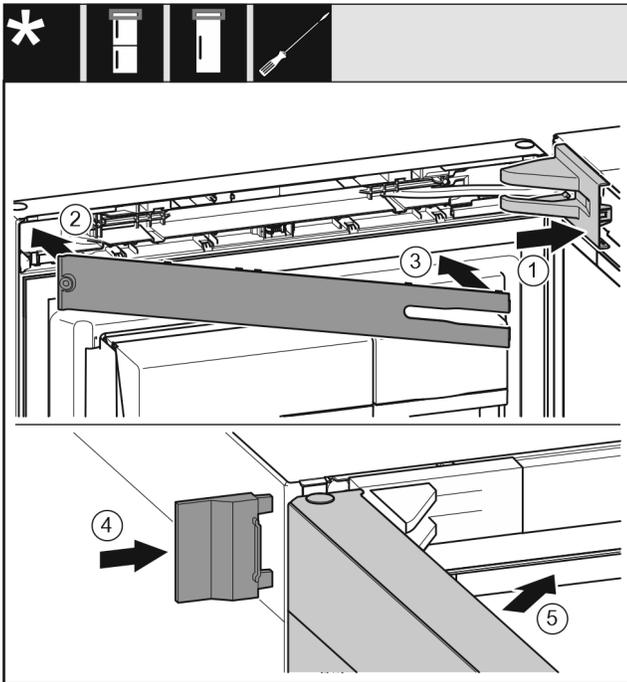

Fig. 24
- ▶ Position the bearing bracket cover and engage it. If necessary push it apart carefully. Fig. 24 (1)
- ▶ Place on the panel. Fig. 24 (2)
- ▶ Swing in the panel and latch it into place. Fig. 24 (3)
- ▶ Slide on the outer cover. Fig. 24 (4)
- ▶ Close the upper door. Fig. 24 (5)